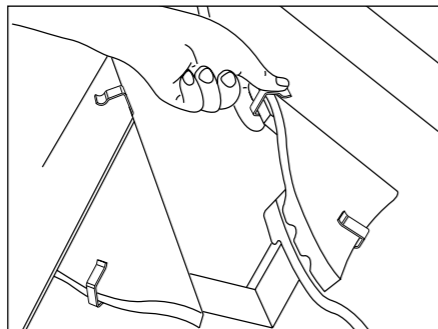

Fig. 4 – Clip all small pieces of tile along hip
- 4 Ensure that all raking cut roof tiles along the length of hip are secured using the 'C' clips provided or secret cut tile clips (Code 43607, sold separately) (Figs. 4 and 5).